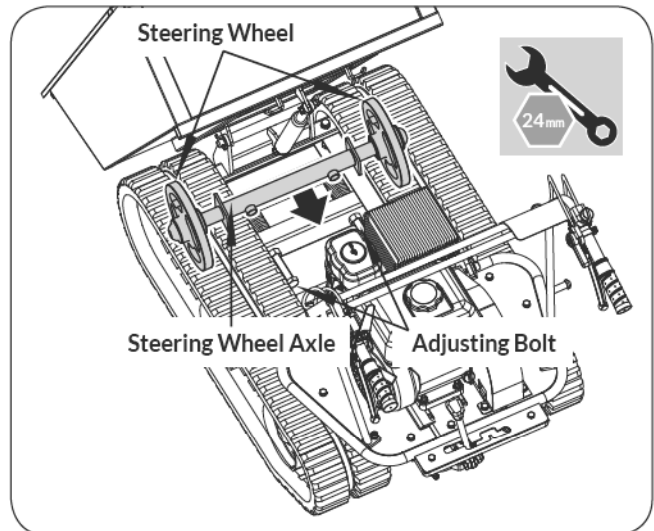

Figure 9b
3. Loosen the adjusting bolts and pull the steering wheel axle toward the engine, then track will be loosen. (See Figure 9b)